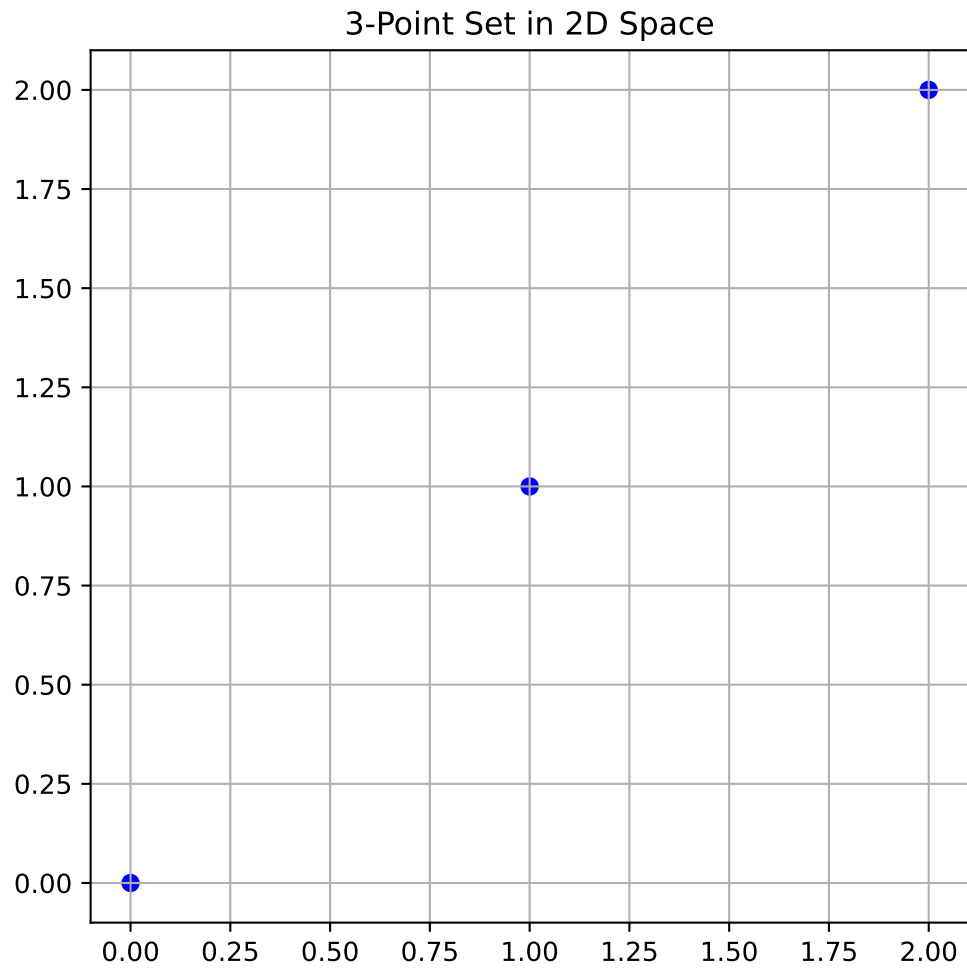

Figure 3.7.: 3-Point Set in 2D Space
**Example 3.7** (The Function `jd`). Consider a small 3-point set in 2D space, with points located at (0,0), (1,1), and (2,2) as shown in Figure 3.7. The distinct distances and their occurrences can be computed using the `jd` function, as shown in the following code: